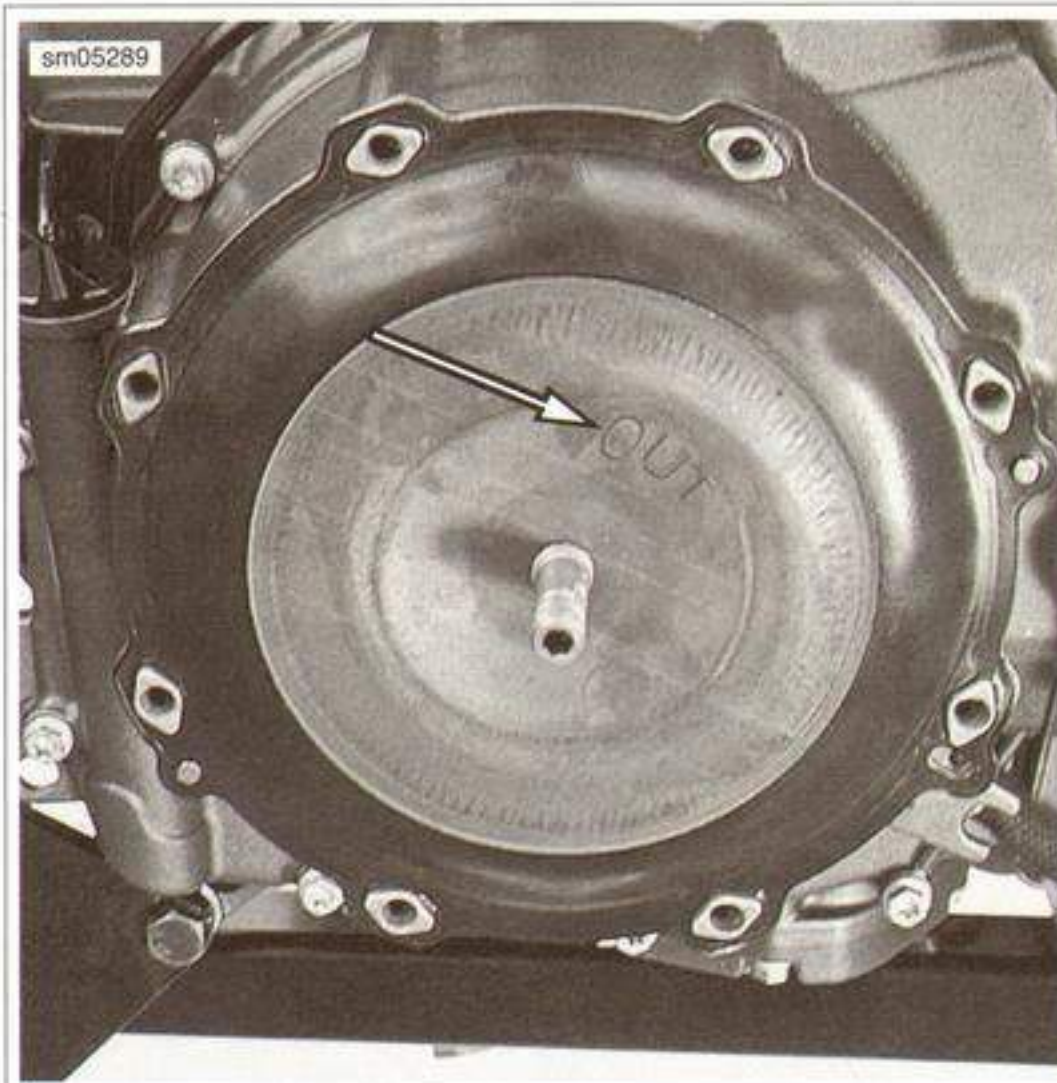

Figure 6-34. Diaphragm and Outer Disc Plate
7. See Figure 6-34. Fit the outer disc plate with the stamped word OUT side out.
8. Fit the thrust washer (7).
10. Thread on the nut (8). Holding the flat of the clutch release pin, tighten to 15 Nm (133 in-lbs).